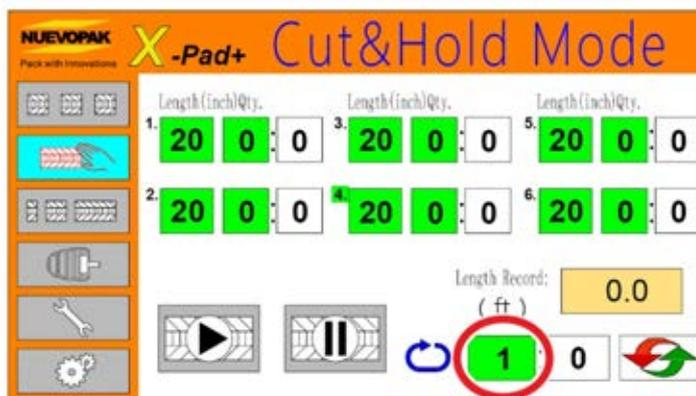

Figure 37 Change Preset Number of Cycles
3. Change the pre-set output quantity (refer to Figure 37).